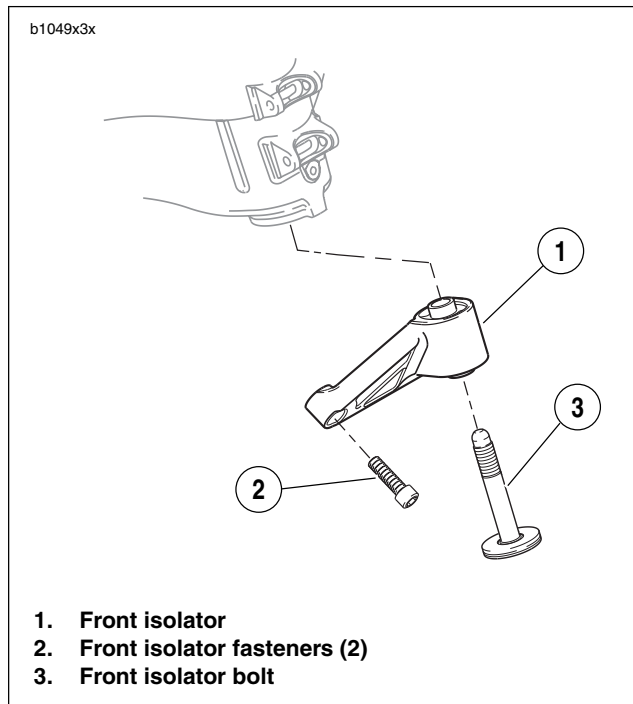

Figure 3-45. Front Isolator
10. See Figure 3-45. Insert front isolator bolt (3) through front isolator (1) and loosely thread into frame. Do not tighten at this point.
11. Install isolator mounting fasteners (2) and tighten to 49-51 ft-lbs (66-69 Nm).